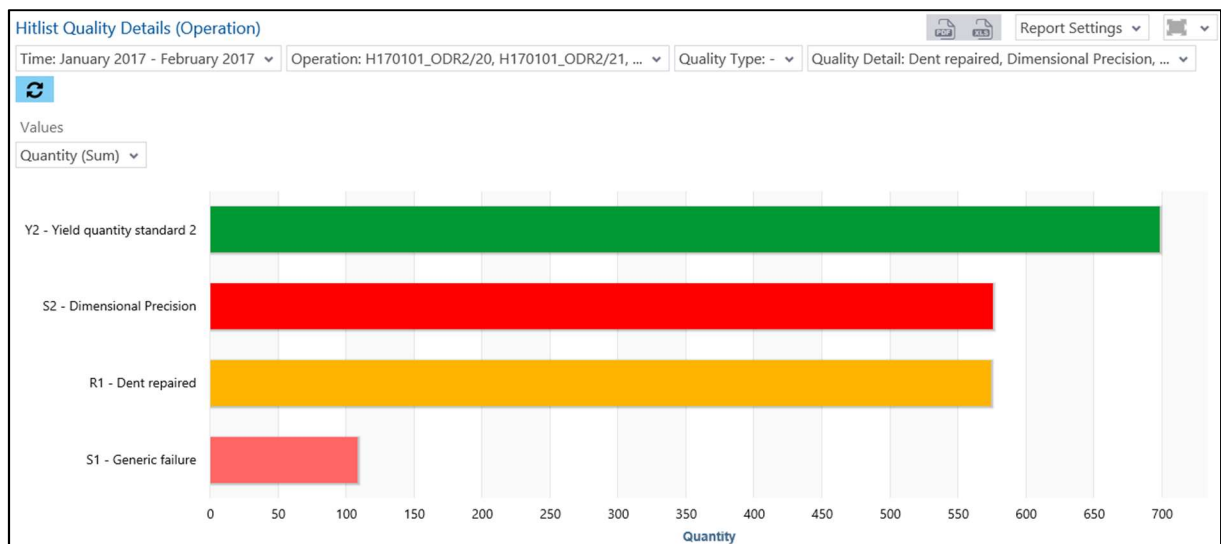

Fig. 121: Hitlist Quality Details (Operation) as a bar chart
- Hitlist Quality Details (Operation) as a bar chart (Fig. 121):